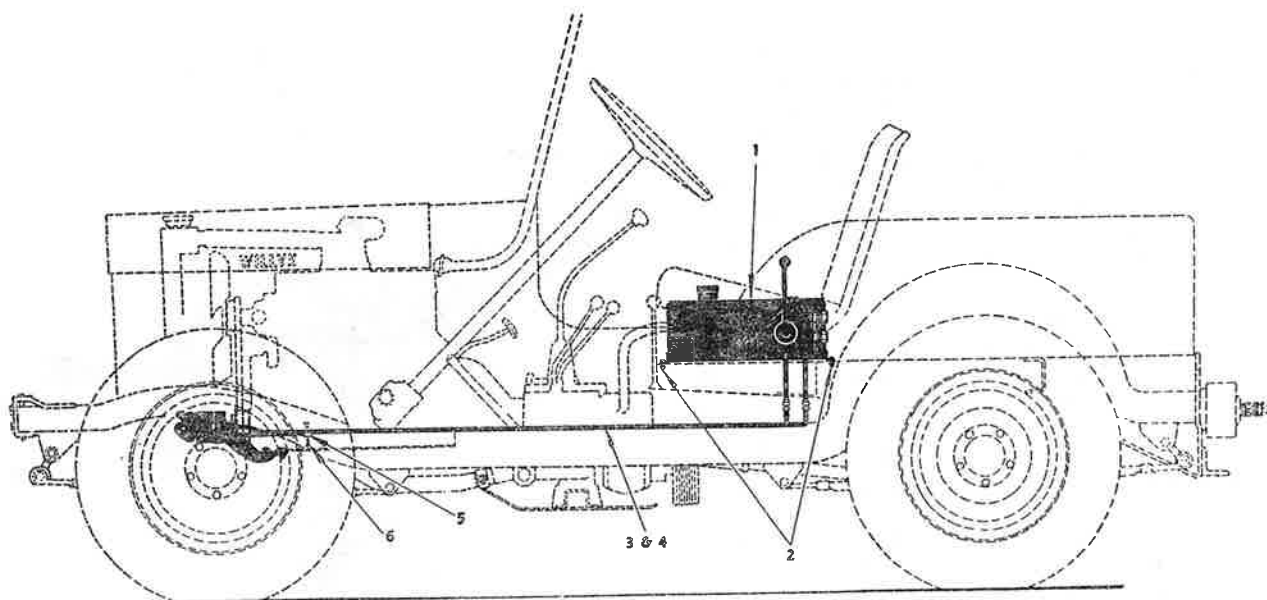

FIG. 328—INSTALLATION OF HYDRAULIC LINES
Position the tank and control valve assembly, No. 1, Fig. 328, on the floor with the two tubes centralized in the $1\frac{3}{8}$ " diameter holes and with the left edge of the tank extending approximately $\frac{1}{16}$ " over the edge of the floor riser. Mark the (4) holes in the tank support brackets on the floor of the Jeep and center punch.